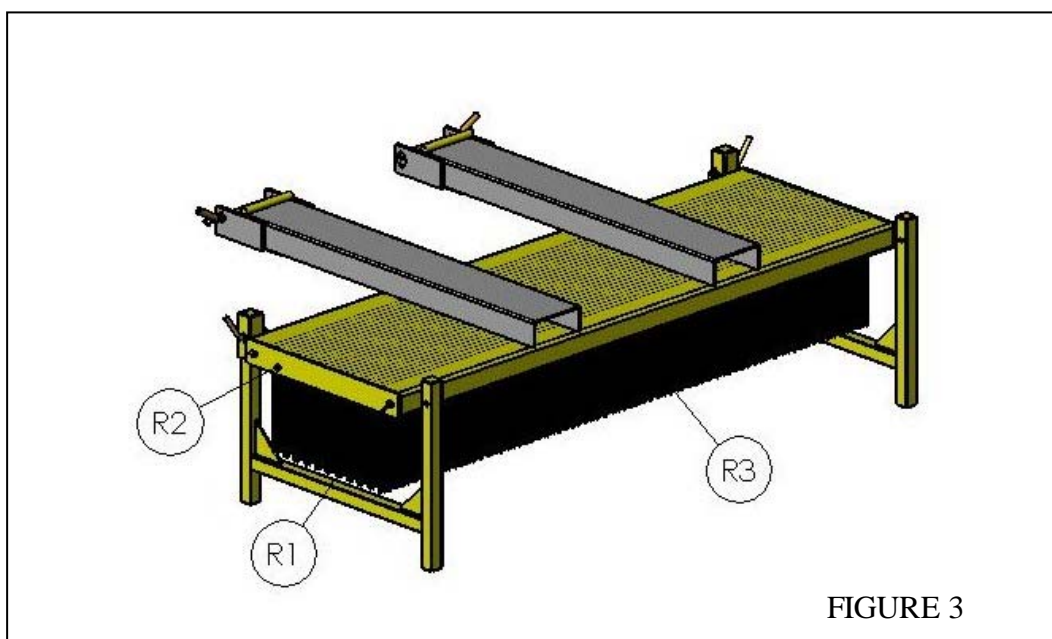

FIGURE 3
1. Stand unit on ground in horizontal position. ( as shown in FIGURE 3 )